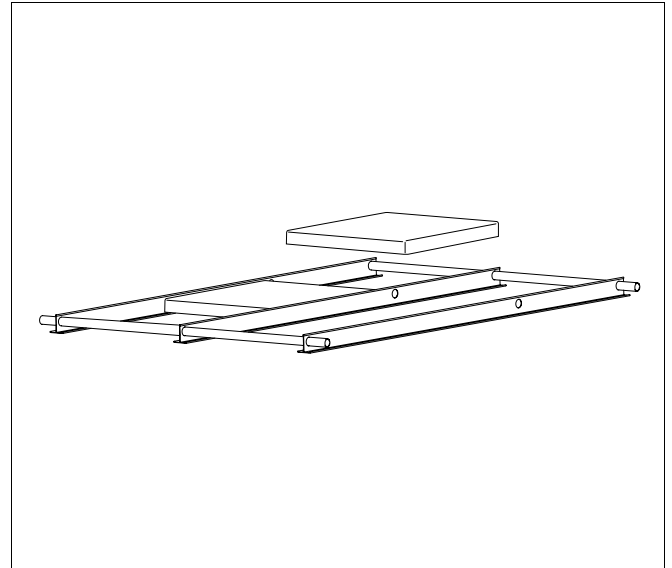

Fig. 21 Stabilising the base frame with walk-way plates
- Stabilise the base frame by positioning a conventional paving slab (Fig. 21) onto the tee-section legs. Locate the remaining paving slabs only after the flat roof supports have been fully assembled (see Chapter 5.3 "Stabilising the flat roof supports", page 25).